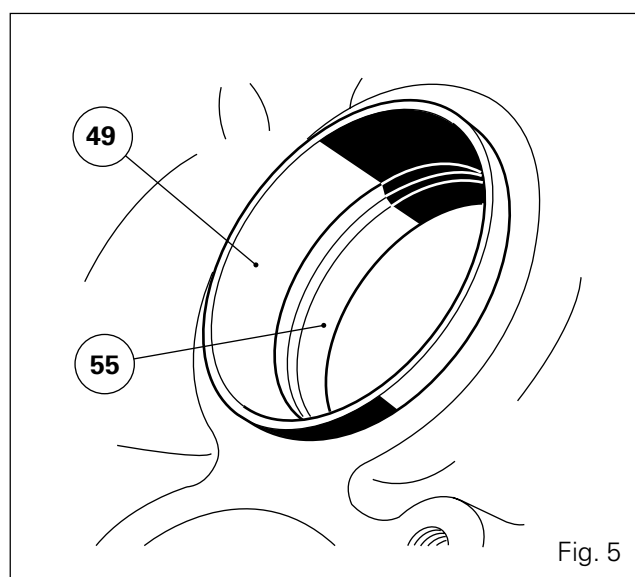

Fig. 5
- If necessary, shim the bearings (54) (55) and (49) (50) (see § F).
21. Lubricate the cones (50) (54) and the bearing cups (49) (55).
22. If disassembled, insert the cups to thrust against the shoulder of the housing, with large cup (49) fitted into the rear bore of the gearbox (Fig. 5).
23. Slide cone (54) onto shaft with shim (53) the thickness of which has been determined at operation 46.
24. Place the assembled shaft in the housing. Fit cone (50). Pre-tighten nut (52) in contact with the cone (50).